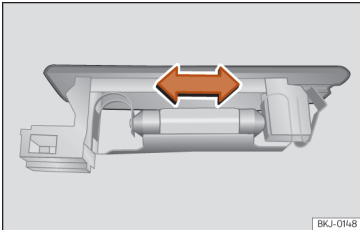

Fig. 177 Luggage compartment lighting.
- Press the bulb sideways and remove it from its housing »» **Fig. 177**.